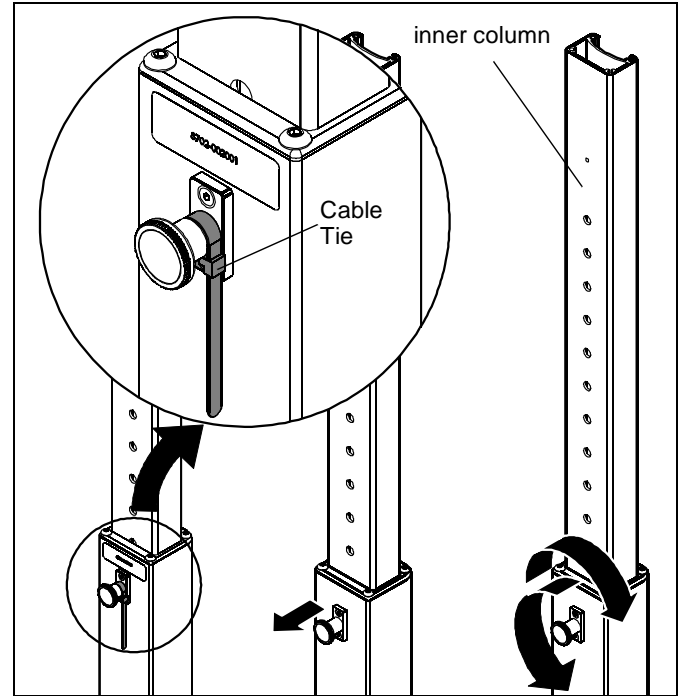

Figure 2
IMPORTANT ! : Press cable tie tab to loosen and remove cable tie from around knob post. (See Figure 2)
2. Lift up slightly on the inner column of center post and hold firmly toward top of post. (See Figure 2)
3. Pull out knob on the center post and turn 90° in either direction to disengage the locking mechanism. (See Figure 2)
4. Raise the inner column and turn the knob 90° in either direction to engage the knob and lock the column in place. (See Figure 2)